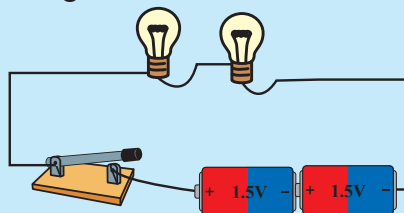

Figure 10.13 ▲
- Connect two bulbs, joined in series to a switch and two cells as shown in Figure 10.13.